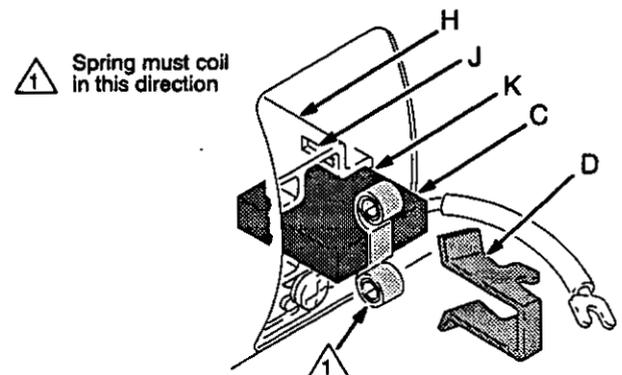

Fig. 40
5. Install the new brush so its lead is in the long slot of the holder. Slide the terminal under the terminal screw washer. Make sure the motor lead is still connected the at the screw. Tighten the screw. See Fig. 40.
6. Place the spring on the brush as shown in Fig. 40.
7. Push in and hook the spring clip. See Fig. 40.